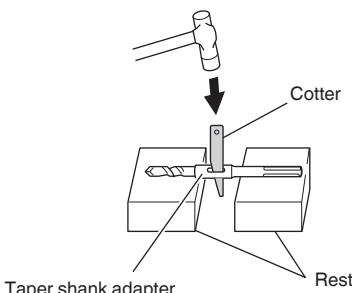

Fig. 16
- To remove the drill bit (taper shank), insert the cotter into the slot of the taper shank adapter and strike the head of the cotter with a hammer supporting on a rests (Fig. 16).